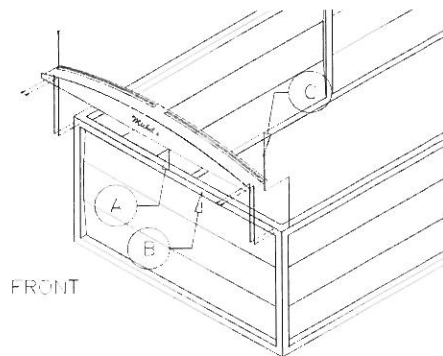

Figure 1
(See Figure 1)
Procedure: Center the front cap on the front wall of the box with the lower 1 inch flange (A) positioned flush against the outside front edge of the box. Using a 3/16" drill bit, drill 14 holes through the 1 inch flange and into the box wall (B) placing 2 holes at approximately every 15 inches (see Figure 1). Secure the front hood using the 1/4" x 1 inch lag screws provided. Drill through the horizontal portion on each side of the front cap and secure using 1/4 x 1 inch lag screws (C).